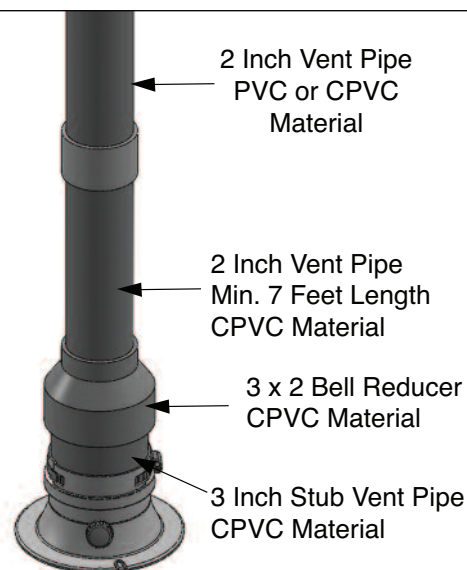

Fig. 20: 2" CPVC/PVC Venting System Vertical
- Use a 3 x 2 bell reducer to make the transition to 2" CPVC/PVC vent, see Figures 20 and 21.